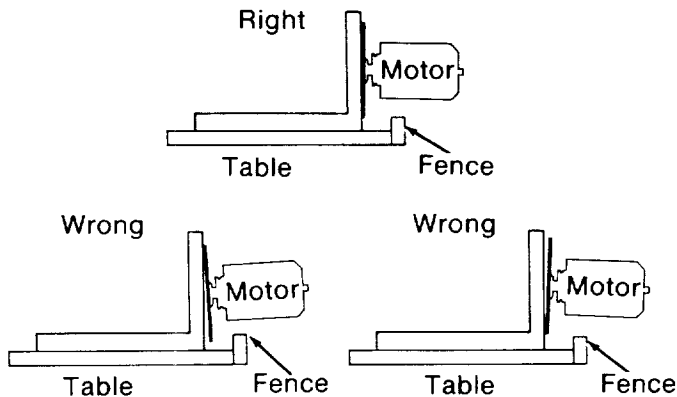

Fig. 115
5. If the square is flush with the *blade* after each rotation (Figure 115) go to step 11, or
If there is a gap between the square and the *blade* after any rotation (Figure 115), go to step 6.